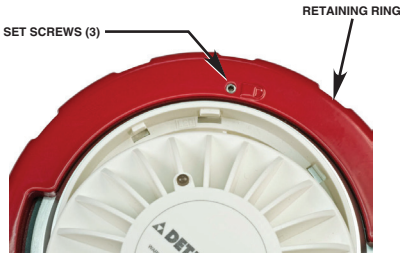

Figure 7—Setscrew Location
1. Slightly loosen the three setscrews located on the retaining ring (see Figure 7).